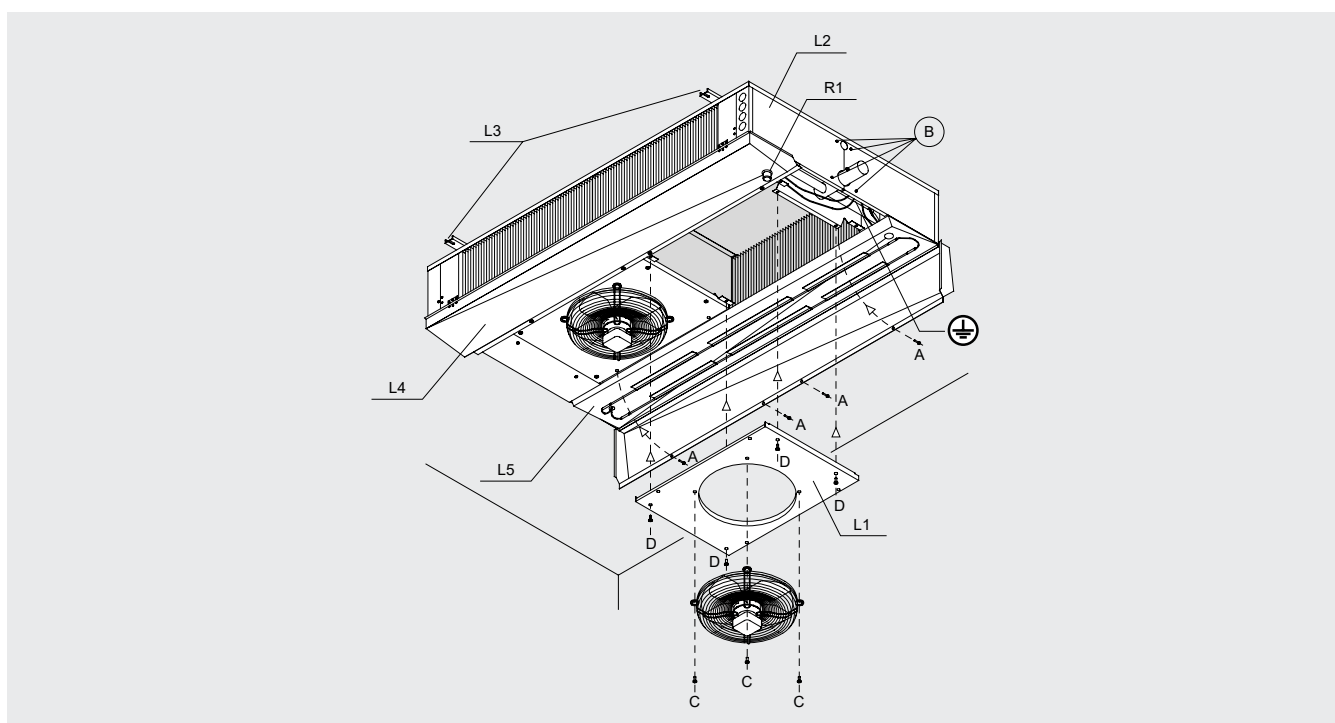

Figure 7
8.9 Unfasten fastening knobs A; slowly position drip trays L4 as shown in "Figure 7".